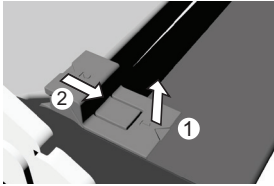

Figure 1
- Slightly lift the supports on the left and right side of the door (marking 1 on the support) and pull them away from the glass (marking 2 on the support) (see Figure 1), replacing the oven door.